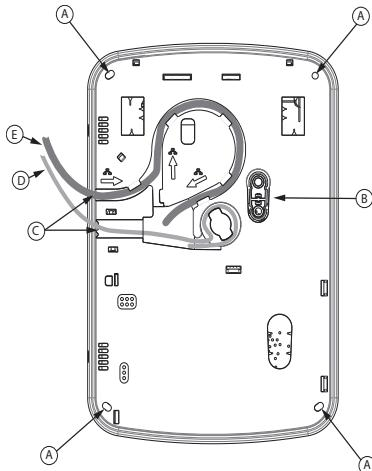

Figure 2 - TL8803GI backplate
3. Route the RS422 and Ethernet cables through the retaining clips as shown in figure 2. Run the wires in the direction indicated by the arrows.
4. Secure the backplate to the wall using the four mounting holes. (See figure 2)